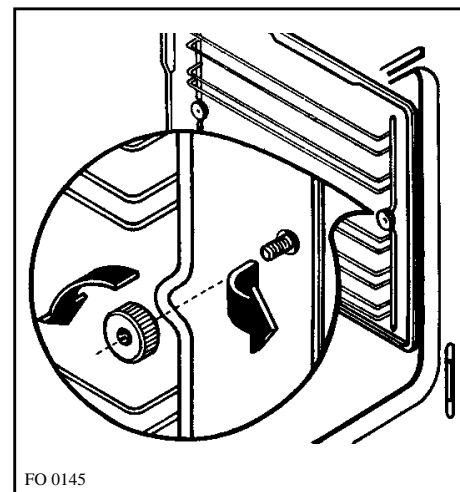

Fig. 8
1. Unscrew the ring nuts, securing the side runners, and remove the runners (Fig. 8).